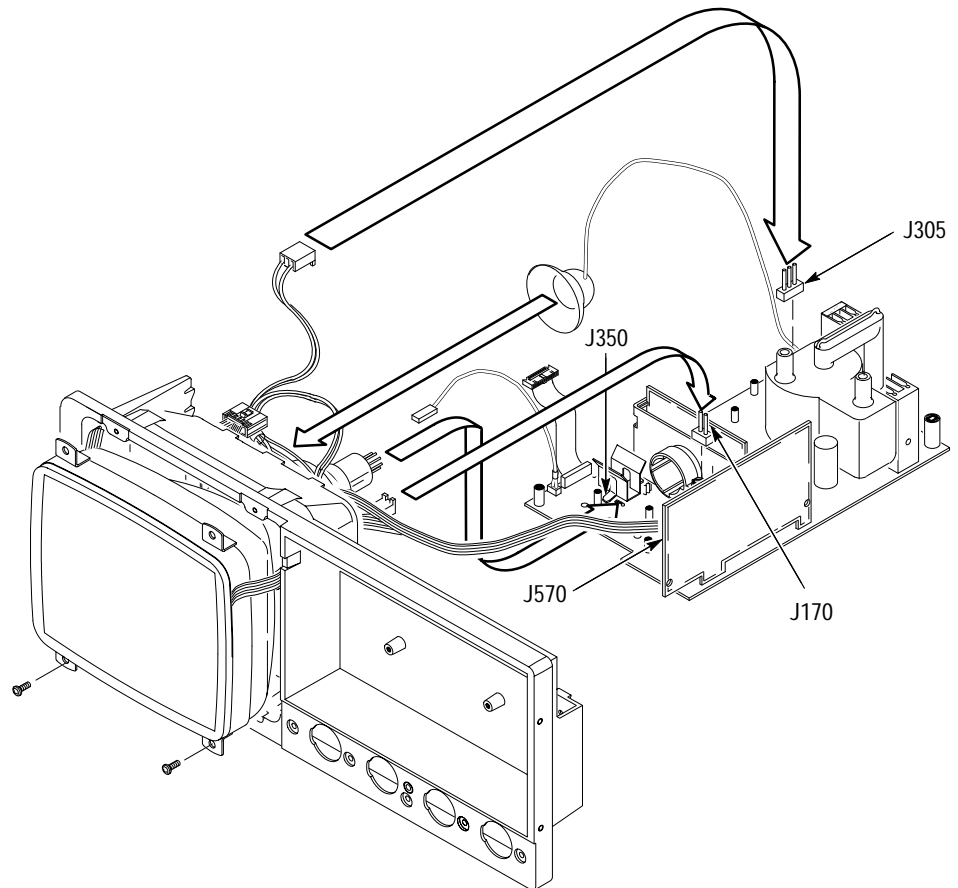

Figure 6-22: Display Assembly Removal
- a. Take the precautions outlined in the warning above. Reference Figure 6-22 while doing the following substeps.